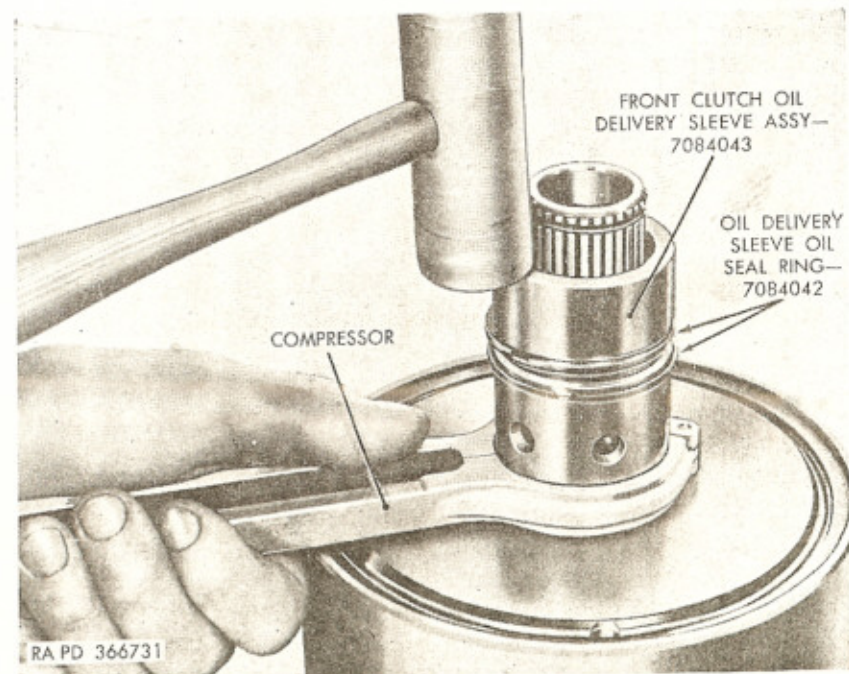

Figure 127. Using compressor—A266328 to install front clutch oil delivery sleeve assembly.
e. Position oil delivery sleeve assembly on planet carrier with the oil seal rings, which are located close to end of sleeve, downward into front planetary unit. Start end of sleeve into front planetary unit; then install ring compressor—A266328 around rings. Do not latch tool handles. With a plastic hammer, tap oil delivery sleeve assembly (fig. 127) until it bottoms in bore of drum. Remove oil seal ring compressor.